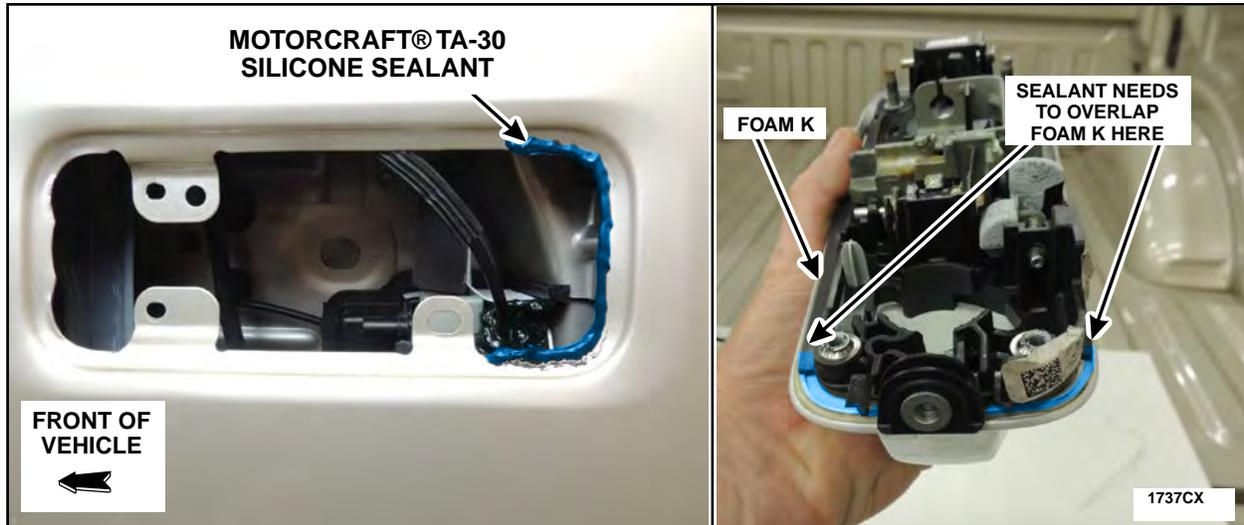

FIGURE 98
23. Apply a bead of Motorcraft® TA-30 silicone sealant to the rear vertical area of the rear door metal surface making sure that the sealant will overlap with the Foam K on the exterior door handle. See Figure 98.